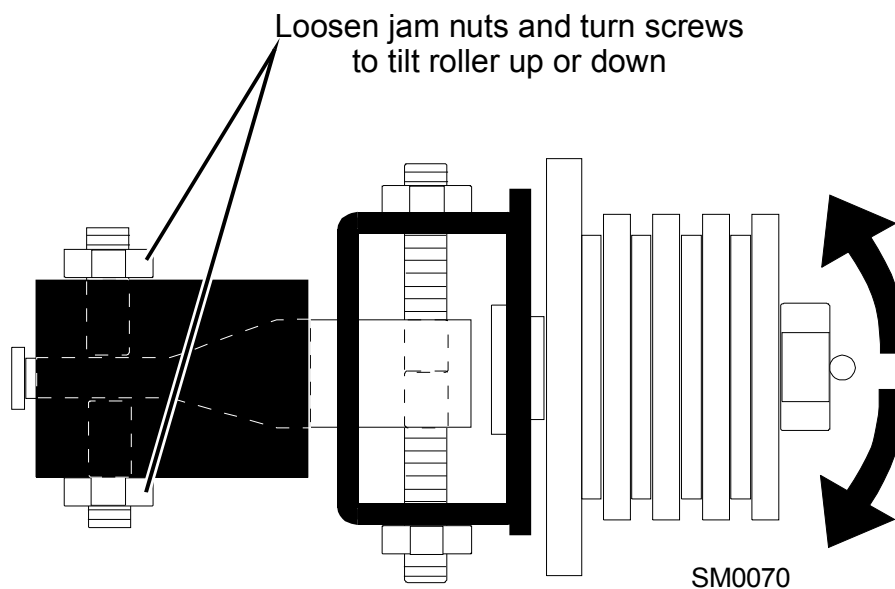

FIG. 5-15
**See Figure 5-15.** Loosen the jam nuts on the top and bottom vertical tilt adjustment screws. To tilt the roller up, loosen the bottom screw and tighten the top screw. To tilt the roller down, loosen the top screw and tighten the bottom screw. Tighten the jam nuts and